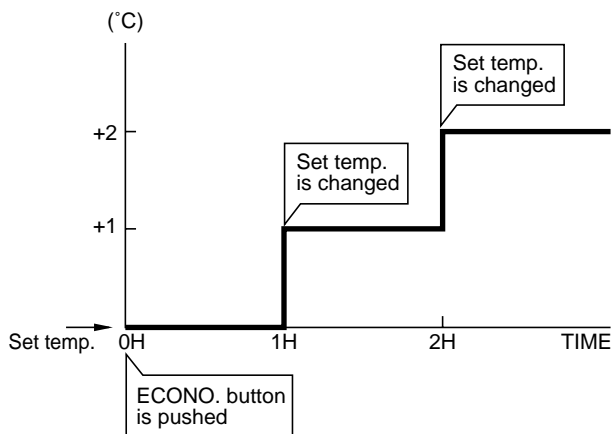

Fig. 7-5-1
- (1) In the ECONO. mode, the set temp. by the remote control is changed automatically as shown in Fig. 7-5-1.
- (2) Fan speed → LOW